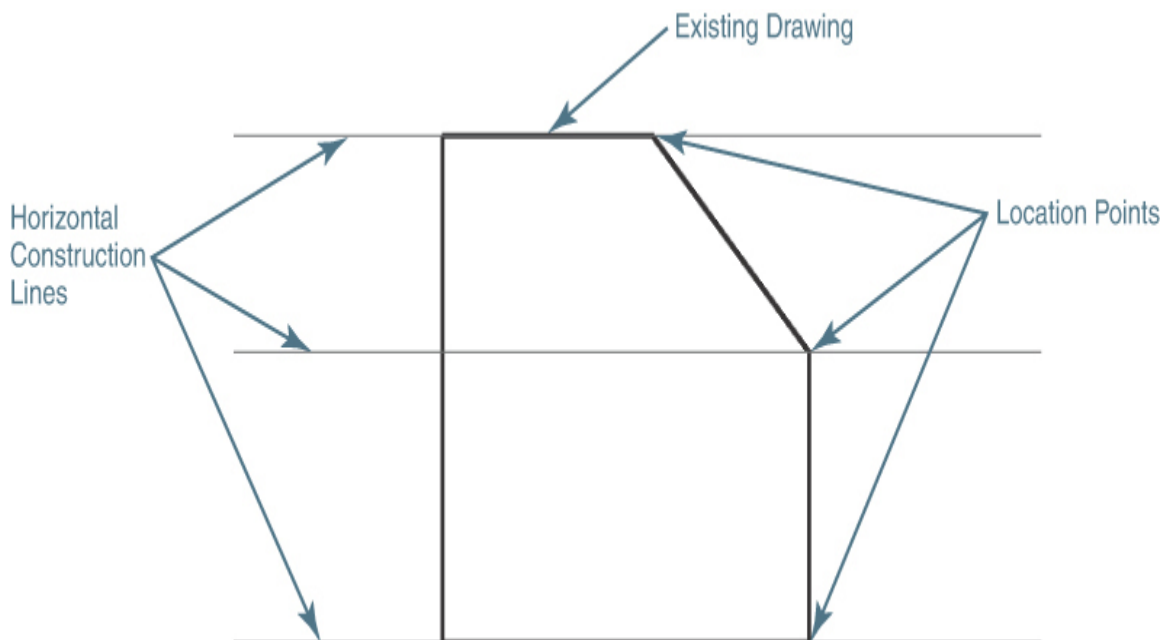

Figure 5-60A
To create a horizontal construction line, select the **XLINE** command and type **H<Enter>** at the command line or select **Hor** from the list of **Dynamic Input** command options. To create a vertical construction line, select the **XLINE** command and type **V<Enter>** at the command line or select **Ver** from the list of **Dynamic Input** command options. You then select a single point to locate the horizontal or vertical construction line in your drawing. AutoCAD continues to prompt for points until you type **<Enter>** so you can create as many construction lines as needed. See Figures 5-60A and 5-60B.
- 9** Create three horizontal construction lines by snapping to the three endpoints using the **Endpoint** object snap, as shown in Figure 5-60A.